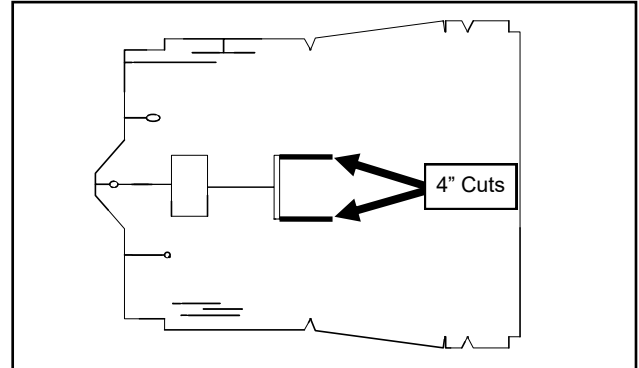

Fig. 19.1 (TLB Seat Alteration)
- 19.1** If installing the underseat filler with the TLB seat, cut two 4" long slits as shown in Figure 19.1. The flaps will then go up the side of the seat rather than underneath.